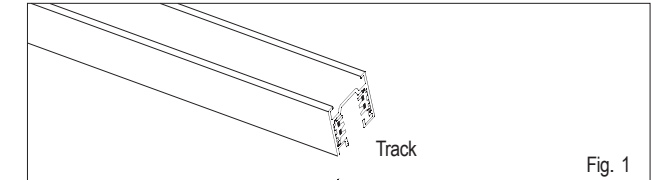

Fig. 1
1. This product is designed for Mayalit track (Fig. 1) or other compatible track.